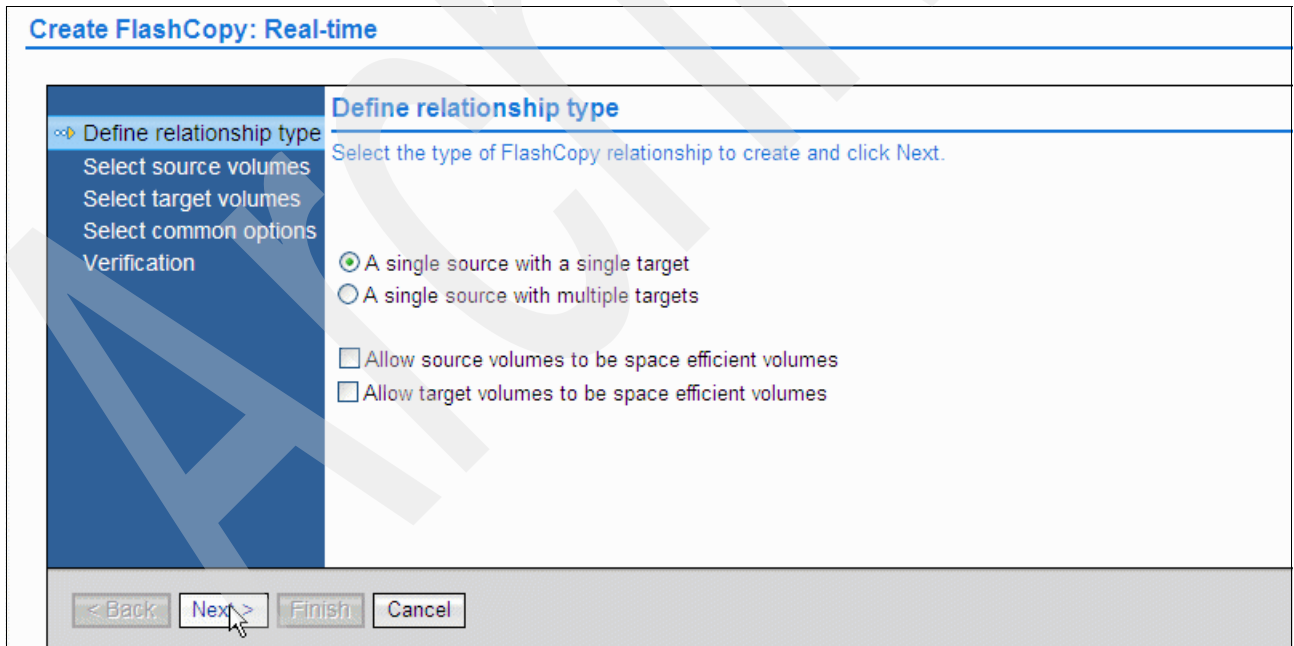

Figure 11-5 Defining the FlashCopy relationship
3. In the right panel, select the type of relationship. In this example, we select **A single source with a single target**. Click **Next** to continue (see Figure 11-5).